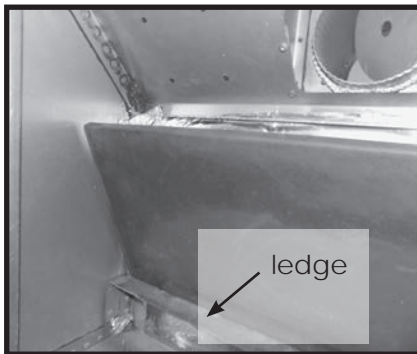

Fig. 81: Back Panel
1. Insert back panel so that it is sitting on the ledge at the back of the firebox as shown in Fig: 81.